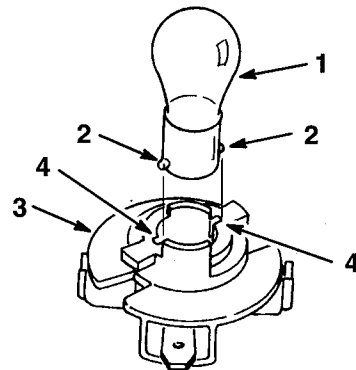

Figure 19
4. Push and rotate the bulb counterclockwise until it stops (approx. 1/4 turn) and remove bulb from the bulb holder (Fig. 19).
1. The bulb has metal pins on the side of its base. Align the pins with the slots in the bulb holder and insert the base into the holder (Fig. 19). Push and rotate the bulb clockwise until it stops.